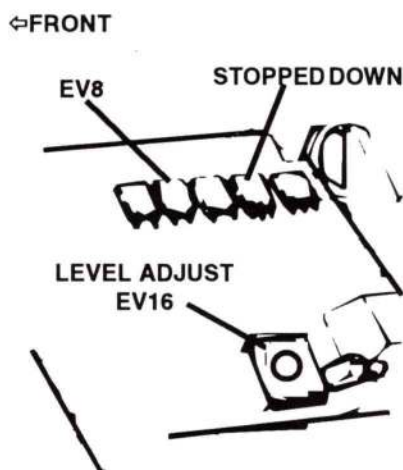

FIG. 40 SPEED-KNOB SIDE OF CIRCUIT BOARD, TTL FINDER
3. Adjustments on the TTL pentaprism finder are on the speed-knob side of the prism. Fig. 40 shows the locations of the adjustments you may have to make for accuracy. If there are only three variable resistors on the board, use the center VR to adjust full-aperture metering. Use the VR to the back of the camera to adjust stopped-down metering. Do not disturb the VR toward the front of the camera.